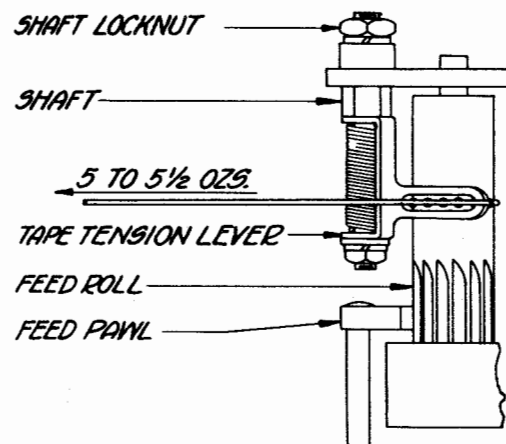

Figure 34
**2.83 Tape-tension-lever Spring:** Hook a scale over the end of the slotted extension of the tape-tension lever and pull at right angles to the lever. It should require minimum 5 ounces, maximum 5-1/2 ounces, to start the lever moving away from the tape-feed roll. See Figure 34.